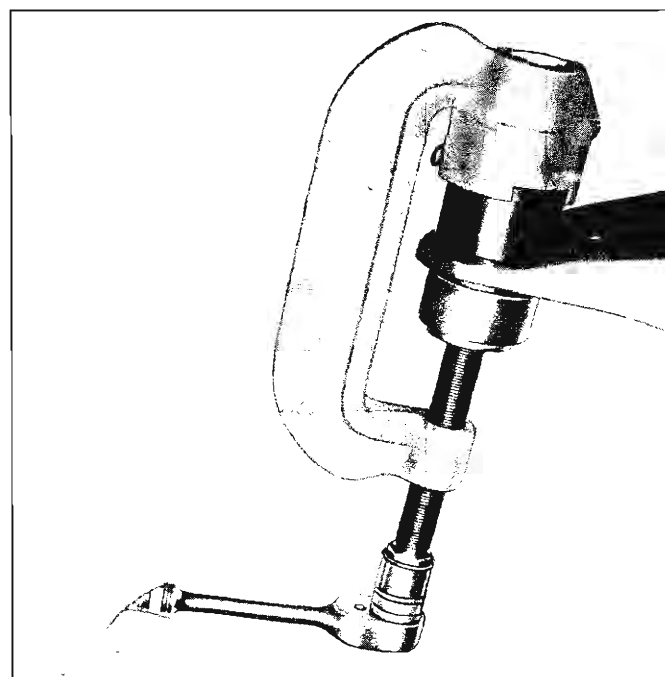

Fig. 30—Installing Lower Ball Joint—Chevelle
1. Start the replacement ball stud into the control arm and install Tools J-9519-10, J-9519-16 and J-9519-17 as shown in Figure 30.